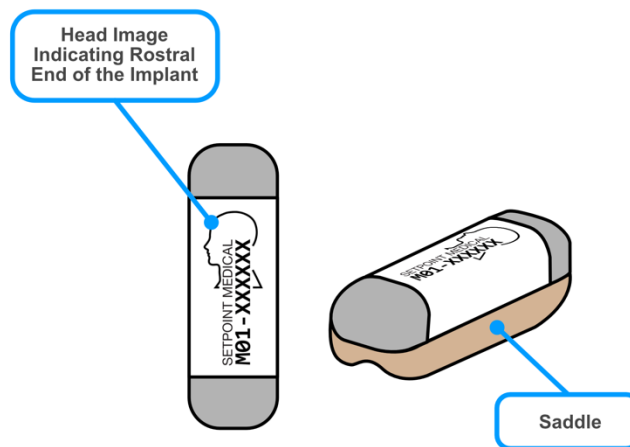

Figure 14 - Head-shaped Marking Indicating Rostral End of the Implant
6. Insert the Implant into the Pod, (see Figure 15a-d) with the head-shaped marking on the Implant oriented rostrally (see Figure 14).